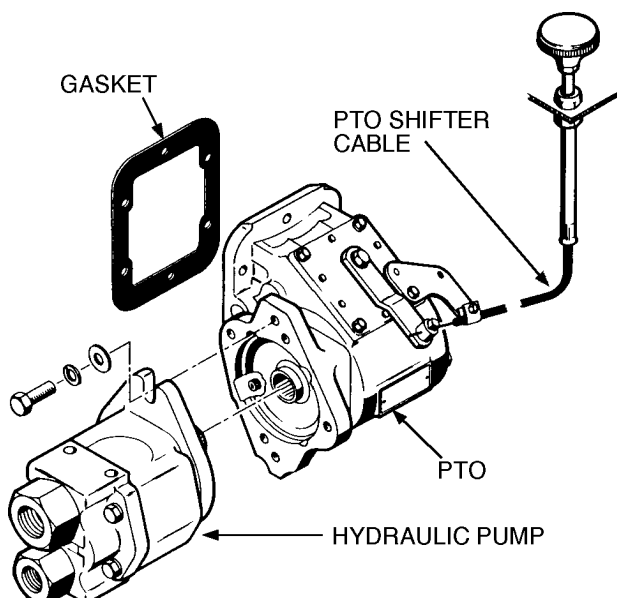
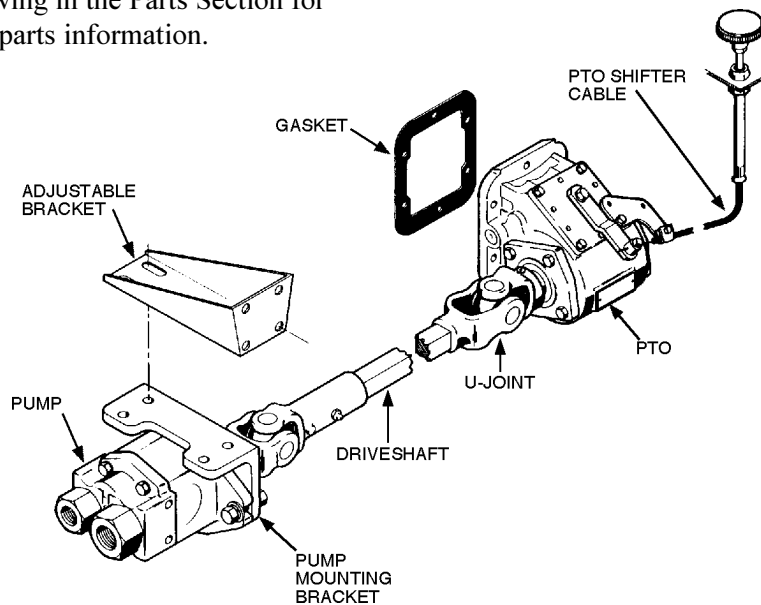

FIGURE B-1. PTO INSTALLATION
FIGURE B-2. DRIVELINE & PUMP INSTALLATION
The pump may either be installed directly on the PTO (see Figure B-1) or, as an optional method, it may be driven by a driveline (see Figure B-2).
The pump may be driven as shown in Figure B-2 as an optional method to the one shown in Figure B-1. The following steps are a guide in this application.
2. Loosely bolt the pump mounting bracket (A) to the adjustable bracket (B) in Figure B-2.